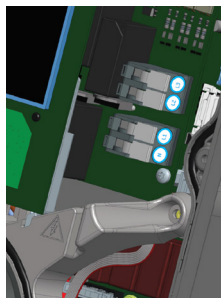

Figure 7: Attaching individual charging cable wires..
9. Push the charging cable further in and connect the wires to the outgoing clamps on the platform. See figure 7 for the location on the 3-phase Pro-line model. With the 1-phase model, only the connection points for N and L1 are available.